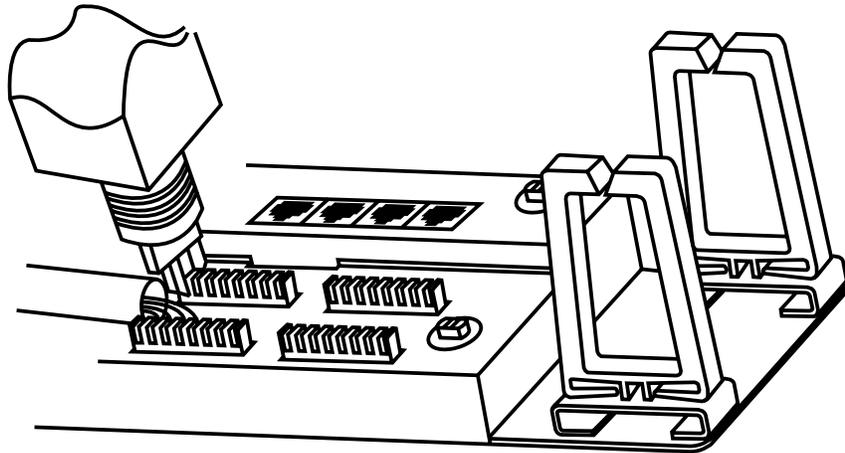

Figure 6. Using the punchdown tool to terminate connectors.
5. Terminate each wire with a 110 punchdown tool. Then push the 110 tool to the edge of the connector in order to trim the conductors. See Figure 6.